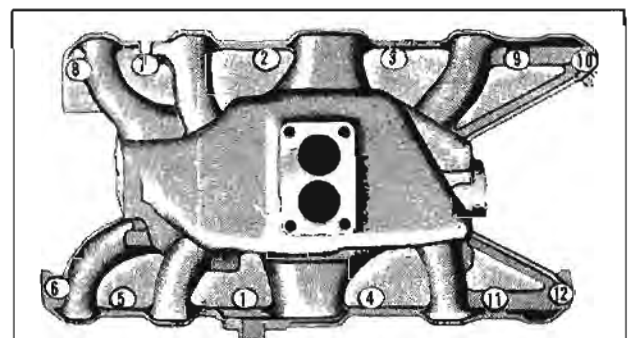

Fig. 8-105 Intake Manifold Bolt Torque Sequence
4. Coat 12 intake manifold bolts with engine oil and install bolts. Torque alternately 25-30 ft. lbs. (Fig. 8-105)